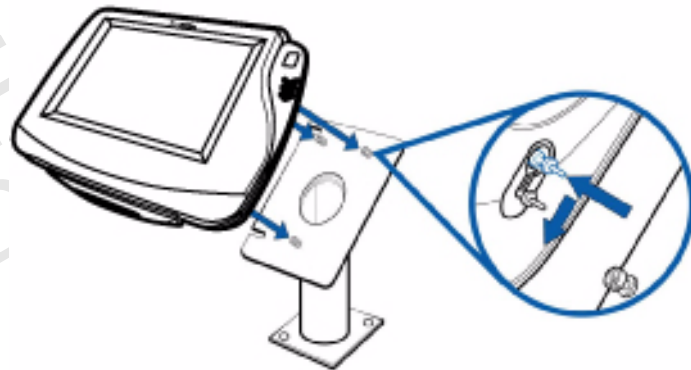

Figure 5 Aligning M^x800 Series Terminal with the Typical Mounting Plate.
- 5 Align and seat the three pins on the top plate of the stand mount platform with the three key-hole slots on the bottom of the M^x800 Series terminal (Figure 5).